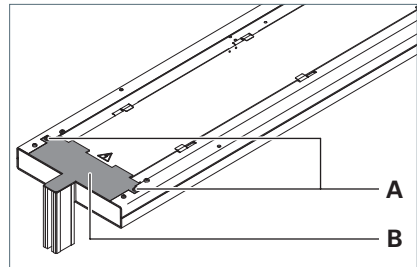

Fig. 14: Removing the cover
- Unscrew the screw **A** from the cover **B**, see Fig. 14.